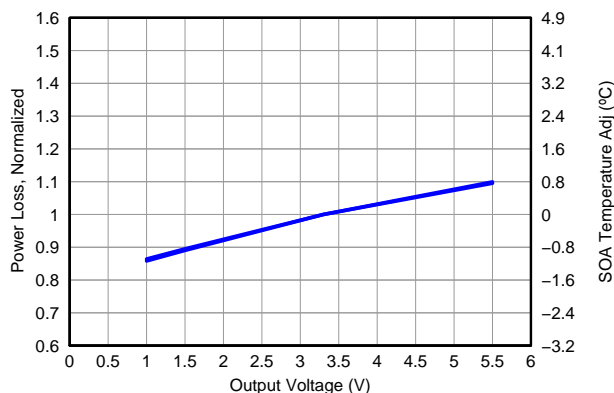

Figure 8. Normalized Power Loss vs. Output Voltage
- Normalized Power Loss for output voltage ≈ 0.9 (Figure 8)
- SOA adjustment for output voltage $\approx -0.8^\circ\text{C}$ (Figure 8)